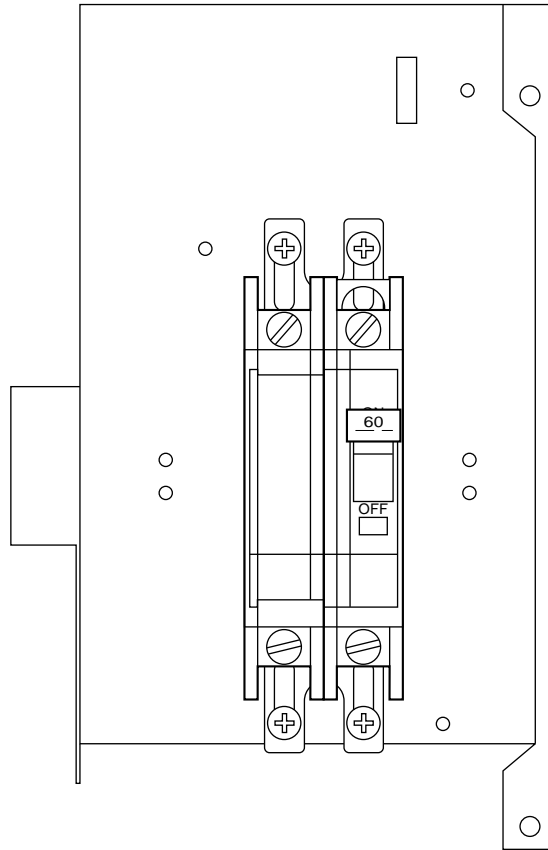

Fig. 7—Conversion Using Type 1 Breaker
1. Conversion to Type 1 breaker (See Fig. 7.):